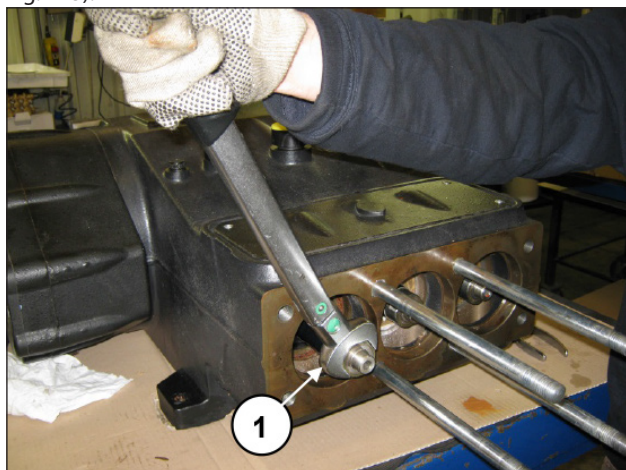

Fig. 125
Fit the piston spacer on the pump and tighten (pos. ①, Fig. 125).